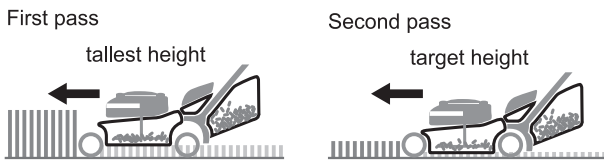

Fig. 16.
- 1 When grass and weeds are particularly long, mow the area in two passes. For first pass, set the mower to tallest height. For second pass, set the mower to target height. (See Figs. 16.)